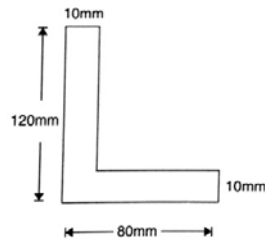

Fig. No.3
- c) Find the position of centroid of an unequal angle as shown in Fig. No. 3